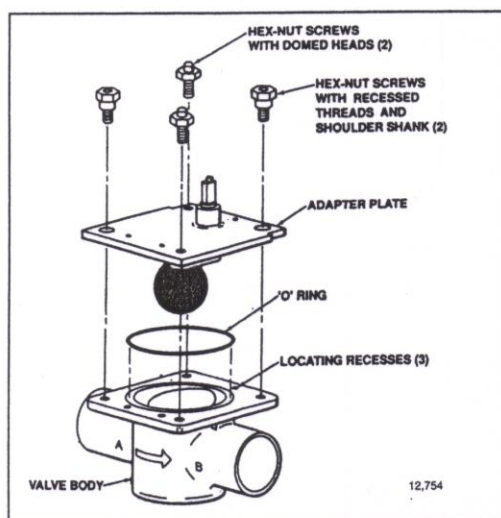

Fig. 5
5. Use a 5/16 wrench or ratchet to remove the 4 hex-nut screws securing the adapter plate to the valve body and lift off the adapter plate using a flat screwdriver (see Fig.5).
1. Insert the O-ring on the valve body, only if you have removed it (see Fig.5).
3. Secure the metal plate to the valve body with the 4 hex-nut screws (see Fig.5). 2 of the screws have heads with recessed threads to insert screws for mounting the power head, insert them in the larger screw openings.